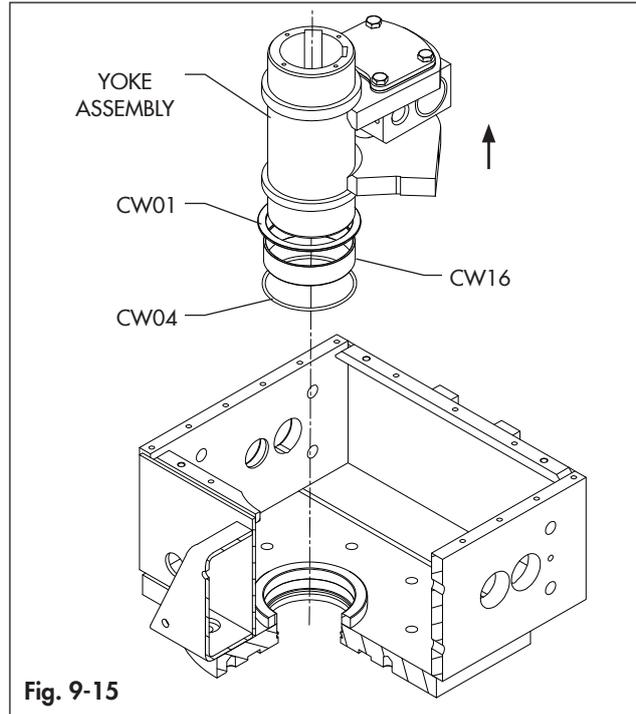

Fig. 9-15
- Remove the yoke assembly from the central module by means of proper lifting equipment and place it in a safe position over the workbench. (Fig. 9-15)
- Remove the thrust bearing (CW01), the shaft bearing (CW16) and the o-ring (CW04) from the Central module. (Fig. 9-15)